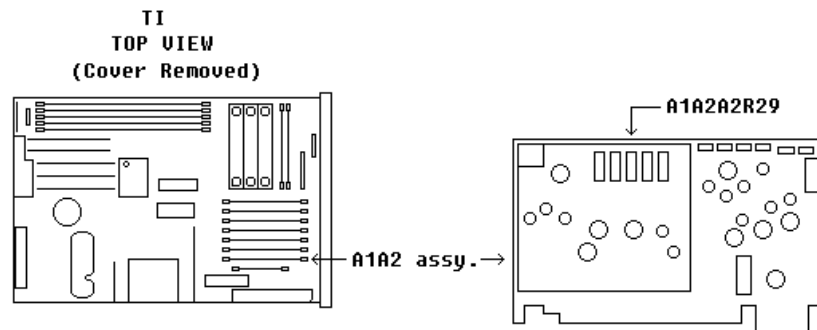
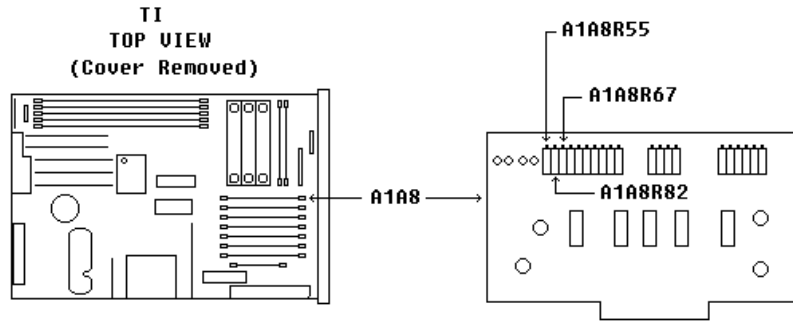

Figure 7. A1A2 board.
Figure 8. A1A8 board.
- (6) Press TI RCL 1.
- (7) Adjust A1A2A2R29 (fig. 7) for a measuring receiver indication of  $-3.0$  dBm (R).
- (8) Using **TUNE KNOB**, tune the test instrument from 2 to 6.6 GHz. Record minimum and maximum measuring receiver indications and frequencies where they occur.
- (9) Adjust A1A8R55 (fig. 8) to reduce the difference between minimum/maximum power indications (R).
- (10) Using **TUNE KNOB**, tune the test instrument to 2 GHz.
- (11) Readjust A1A2A2R29 (fig. 7) for a measuring receiver indication of 3.0 dBm.
- (12) Tune the test instrument from 2 to 6.6 GHz. Verify that the output level stays within  $\pm 1$  dB of -3 dBm.
- (13) Repeat (8) through (12) above until level stays within 1 dB of -3 dBm or until no further improvement can be made.
- (14) Press TI **RCL 2**.
- (15) Using **TUNE KNOB**, tune the test instrument from 6.600002 to 12.99902 GHz. Record minimum and maximum measuring receiver indications and frequencies where they occur.
- (16) Adjust A1A8R82 (fig 8) to minimize difference between minimum and maximum power indications (R).
- (17) Press TI **SWEEP MODE OFF, FREQ INCR, 2, 0, 0**, and **MHz** keys.
- (18) Verify the measuring receiver indicates -3 dBm  $\pm 0.2$  dBm. Readjust A1A2A2R29 (fig. 7) as necessary for best compromise.
- (19) Using **TUNE KNOB**, tune the test instrument from 2 to 12.2 GHz. Verify that the difference between the minimum and maximum power indications are equal to or less than 3 dB.
- (20) Press TI **RCL** and **3** keys.
- (21) Using **TUNE KNOB**, tune the test instrument from 12.300003 to 17.59999901 GHz. Record minimum and maximum measuring receiver indications and frequencies where they occur.
- (22) Adjust A1A8R67 (fig. 8) to minimize difference between minimum and maximum power indications (R).
- (23) Press TI **SWEEP MODE OFF**, **FREQUENCY**, **2**, and **GHz** keys.
- (24) Adjust A1A2A2R29 (fig. 7) for a measuring receiver indication of -3.0 dBm.